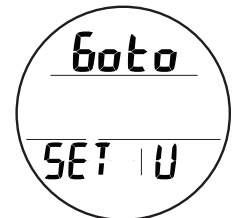

Fig. 58 - SET U LEAD-IN
**Set U Lead-in**, information includes (Fig. 58):